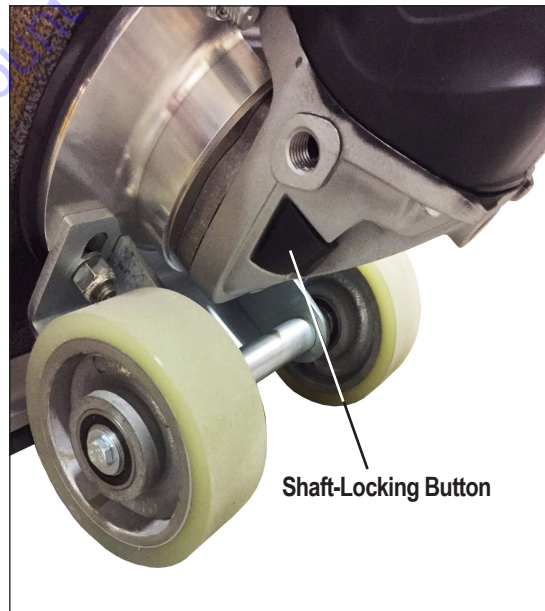

FIG. 9
1. Remove feed spout (1) by pulling it out of the housing.
2. Loosen the control cage clamps (2).
3. Remove the control cage (3).
4. Remove the nuts (4) of the front plate (5) and remove the plate.
5. Fix the blast wheel (7) from rotating by pressing the shaft-locking button on motor (Figure 9).
6. Remove the blast wheel nut (6).
7. Remove the blast wheel (7).
8. Remove the wheel hub (8) and inspect for wear.
9. Inspect the seal (9) for wear.
1. Replace seal (9) if it is worn.
2. Place wheel hub (8) on motor shaft making sure it is properly aligned and fully seated.
3. Place blast wheel (7) through the housing opening and onto the wheel hub aligning with the pins of the hub (8). Spin wheel to ensure it is properly seated on the pins and doesn't wobble.
6. Tighten the blast wheel nut (6) to secure the blast wheel. Spin wheel to ensure it doesn't wobble.
7. Reattach the front plate (5) with the nuts (4). Spin blast wheel to ensure it doesn't wobble.
8. Install the control cage (3). Spin blast wheel and listen for any grinding noises.
9. Tighten the cage clamps to secure the control cage (2). Make sure the blast wheel can rotate freely.
10. Replace the feed spout (1).
11. Adjust the control cage (3) to achieve an even blast pattern.